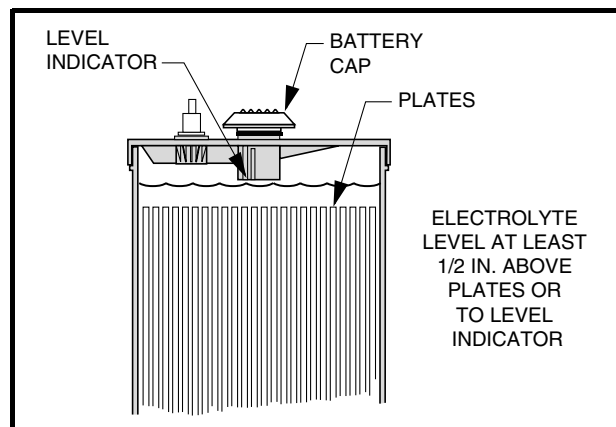

Figure 13-6 Battery Electrolyte Level
3. Maintain proper electrolyte level. **See Battery Electrolyte Level, Figure 13-6, Page 13-6.**
The electrolyte level should be checked weekly to be sure electrolyte is at its proper level (**Figure 13-6, Page 13-6**). Never allow the electrolyte level to fall below the tops of the plates because this will cause the exposed part of the plate to become permanently inactive. For best results, use a battery watering gun for adding water. Check the electrolyte level more frequently in hot weather or when batteries are old.